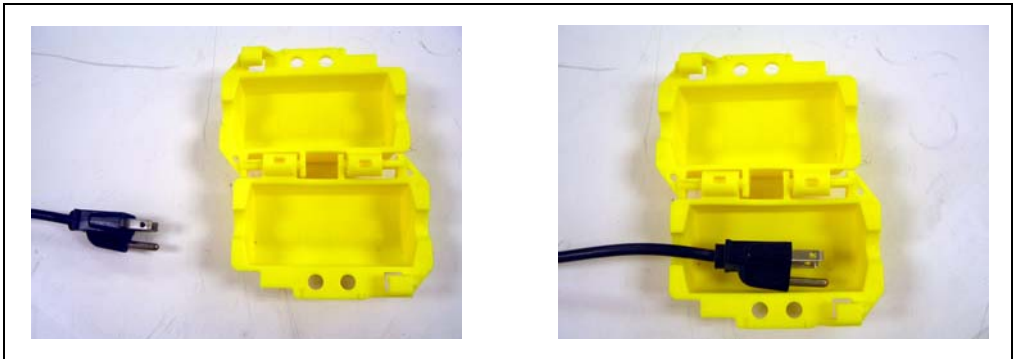

Figure H-4. Insert Power Connector into Lockout Device
- b. Open the lockout device and insert the power connector into the device (see Figure H-4).